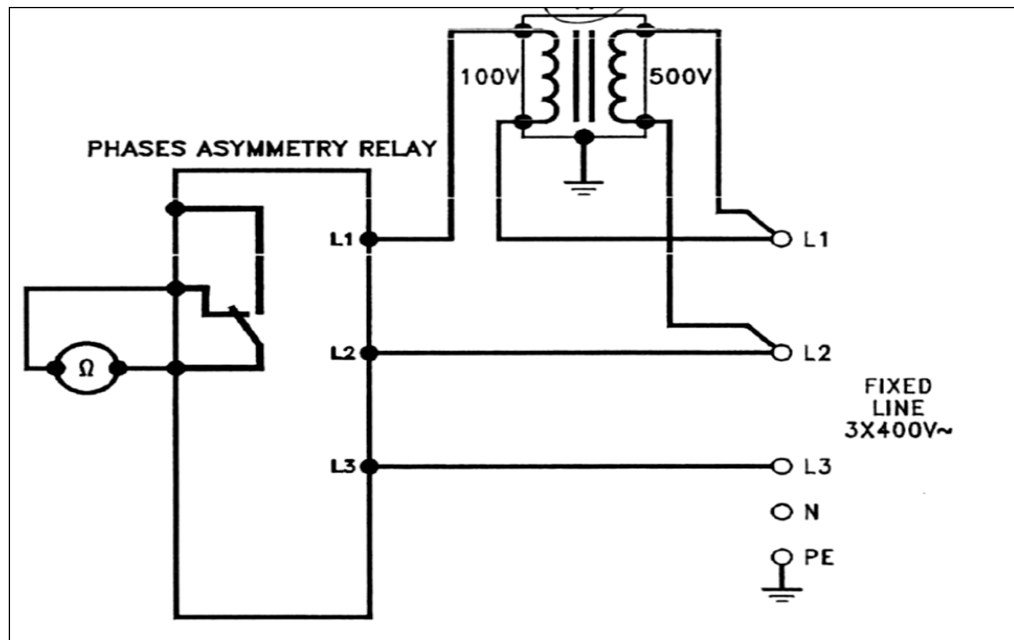

Figure 2.7 Connection diagram for testing a fixed time phase asymmetry relay in a three-phase line.
9. Change the test circuit as in figure 2.7 ,with the VT ,so the value of one of the 3-phase of the triad under control is changed ,record the time elapsed from the “ asymmetry” time and the tripping one of the output relay .If the delay time and the intervention asymmetry value are not those supposed adjust with the related regulations in the device .